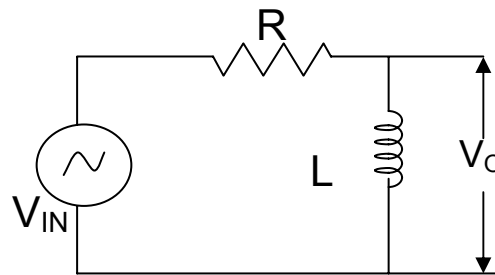

Figure 2: High Pass RL filter.
1. Set up the circuit shown in the **Figure 2** with the component values $R = 1.1 \text{ K}\Omega$, $L = 33\text{mH}$ and Switch on the Elvis Power Supply.